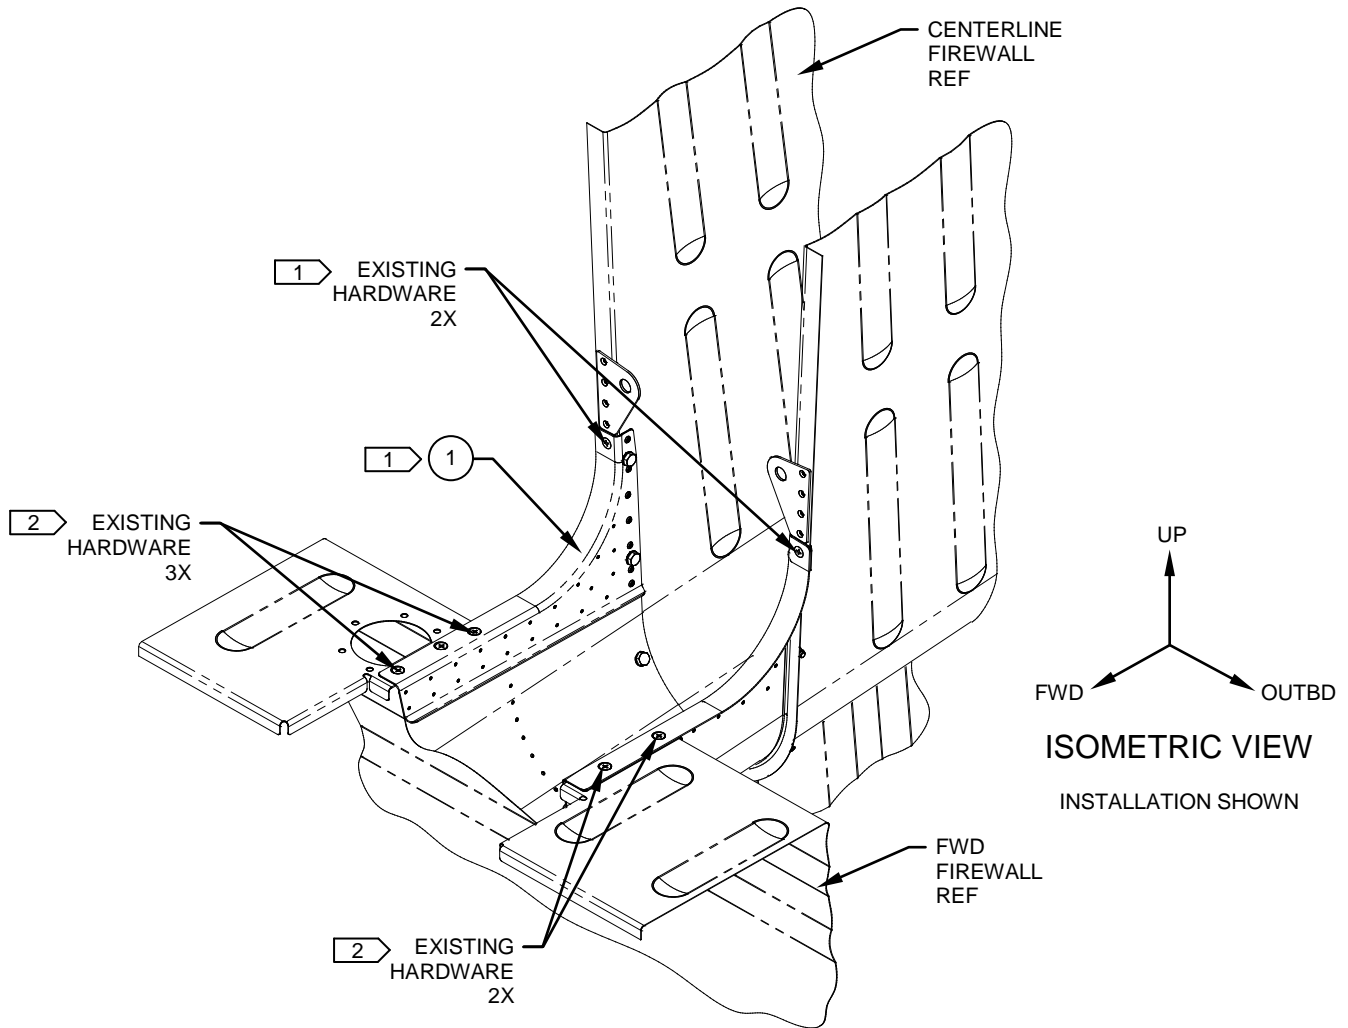

Figure 1
2. Temporarily remove the existing hardware common to the existing Cover. Reference Figures 1 & 2 and Step 5.
3. Remove and discard the existing Cover. Reference Figure 1 and Pennant Note 1.
4. Prepare the Forward/Centerline Firewalls by removing any residual gasket material, dirt, etc. and wipe the mating surfaces clean. Reference Figure1.